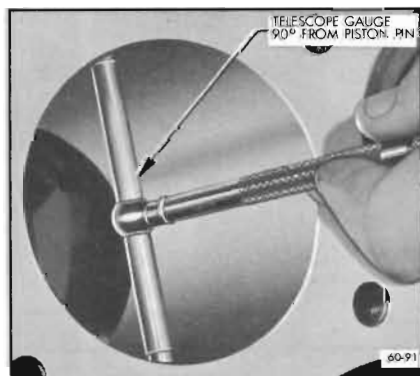

Figure 60-91—Checking Cylinder Bore
1. Expand a telescope gauge to fit the cylinder bore at right angles to the piston pin and between 1-1/2" and 2" from the top. See Figure 60-91.